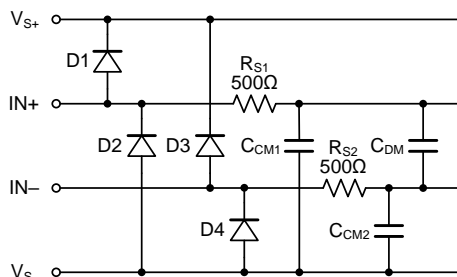

Figure 1. Input EMI Filter and Clamp Circuit
Figure 1 shows the input EMI filter and clamp circuit. The LTC8721/LTC8722/LTC8723 comparators have
Infrared (IR) communication is inherently immune to RF interference as long as there is a line-of-sight path between the transmitter and the receiver. It is also one of the lowest cost communication schemes. This makes it a good choice for implementing wireless communications in applications such as utility metering. A common system topology to extend battery life is to use a power efficient IR receiver analog front end (AFE) that is always on and wakes up the host only when there is a valid IR signal detected as shown in Figure 1.
Figure 1 shows the IR receiver system block diagram. The host MCU is normally in the shutdown mode (during which the quiescent current is less than 1  $\mu$ A) except when data is being transferred.